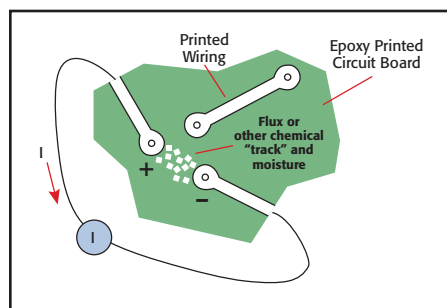

Figure 6
**Contamination and humidity** can produce error currents, which arise from electrochemical effects that occur when contaminants (in the form of ionic chemicals) create weak "batteries" between two conductors on a circuit board. For example, commonly used epoxy printed circuit boards, if not thoroughly cleaned of etching solution, flux, oils, salts (e.g., fingerprints) or other contaminants, can generate currents of a few nanoamps between conductors (see **Figure 6**). To avoid the effects of contamination and humidity, select insulators that resist water absorp-